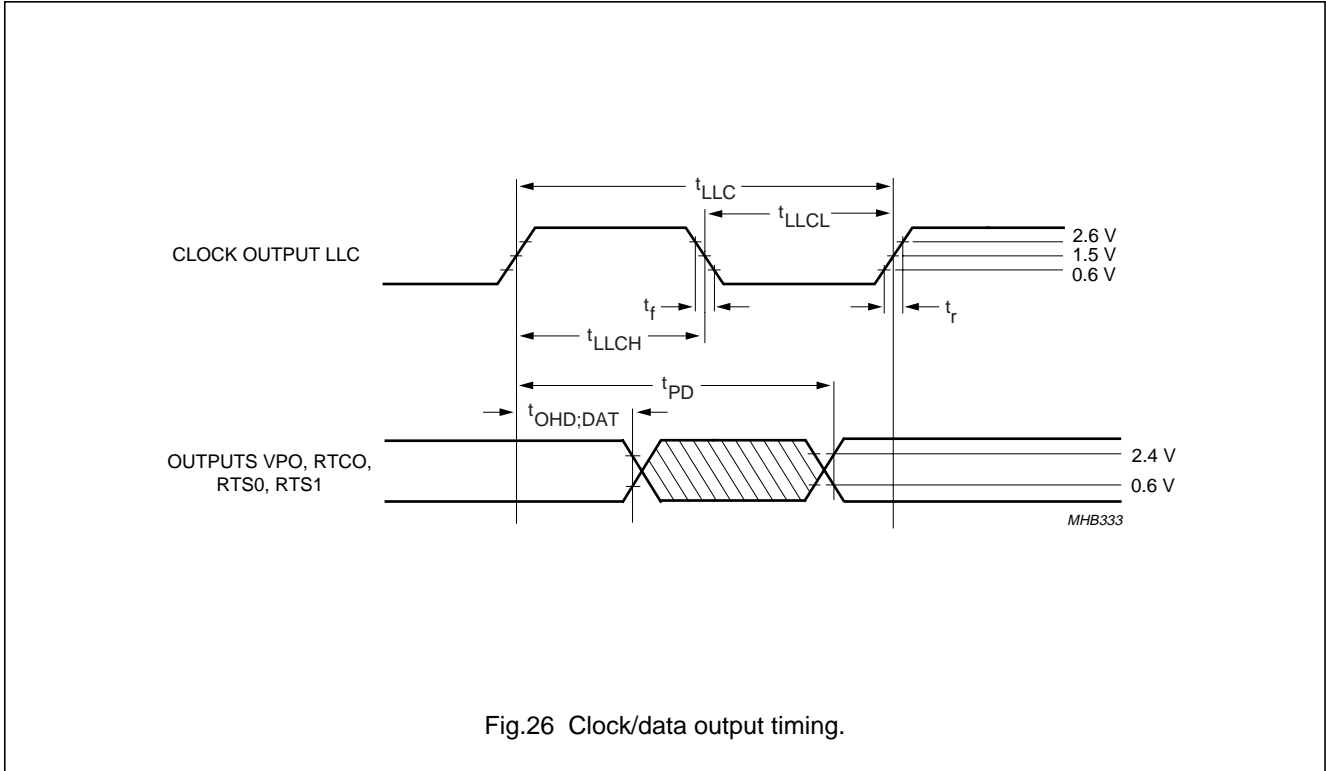

Fig.26 Clock/data output timing.
- The effects of rise and fall times are included in the calculation of $t_{OHD;DAT}$, t_{PD} and t_{PDZ} . Timings and levels refer to drawings and conditions illustrated in Fig.26.